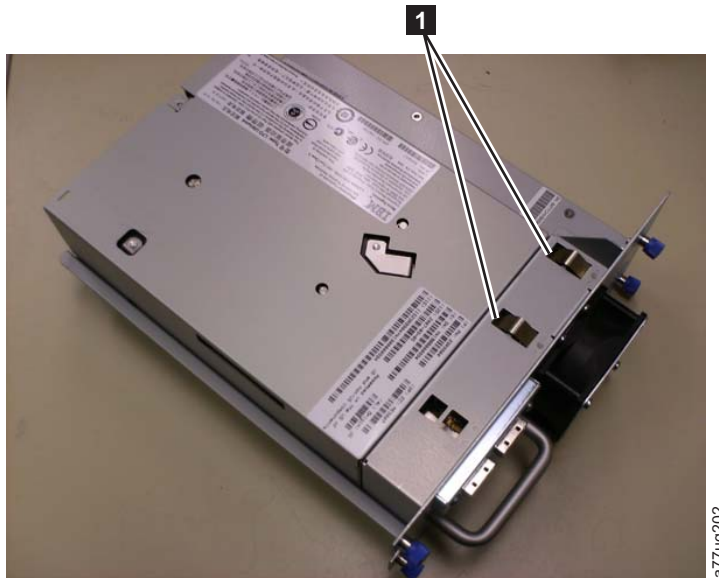

Figure 10-5. Library drive sled with ESD springs [1] (SAS sled shown)
- Drive sled with ESD springs (see Figure 10-5 on page 10-4) ship group: